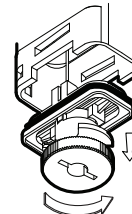

FIGURE 2
1. To replace batteries, remove cover by turning knob counter clockwise and pulling down. See Fig. 2.